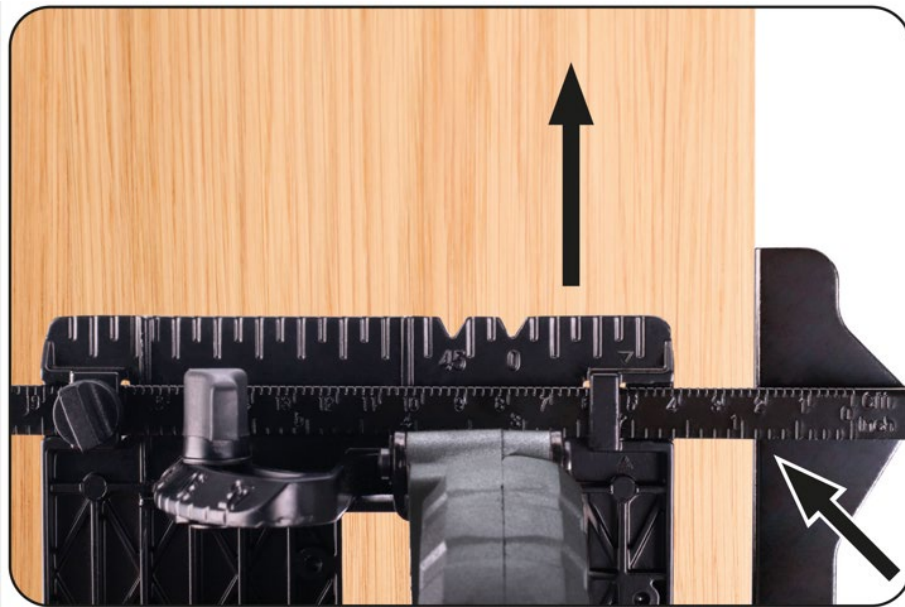

Fig. 8A
4. Let the saw reach full speed, then slowly move it towards the marked cutting line with a notch marked 0° on the base plate for a vertical cut and a notch marked 45° for an oblique cut (see Fig 8A and 8B).